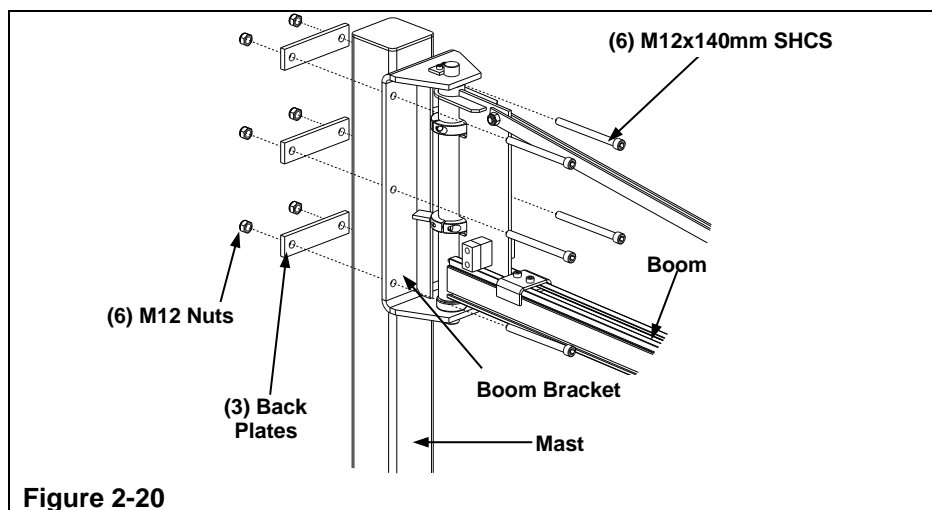

Figure 2-20
- Step 1. Remove the (6) M12x140mm SHCS bolts, nuts, and (3) back plates from the boom bracket. See Figure 2-20.
- Step 3. Align top back plate with the top mounting holes on the boom bracket and tighten the (2) M12x140mm HHCS bolts and nuts. See Figure 2-20.
- Step 4. Repeat Step 3 for the middle and lower back plates. See Figure 2-20.